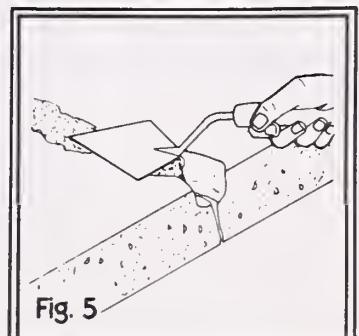

Fig. 5
For big cracks, spread the mixture over the full width of the crack until the level of mortar is slightly above the concrete surface. If repairing a full break in the concrete, use the trowel to force the mortar mixture to the bottom of the break (fig. 5).
6. Using caulking compound, seal all openings where pipes pass through foundation walls or other walls of the house (fig. 5). Also, seal any cracks or points of loose mortar in masonry walls.